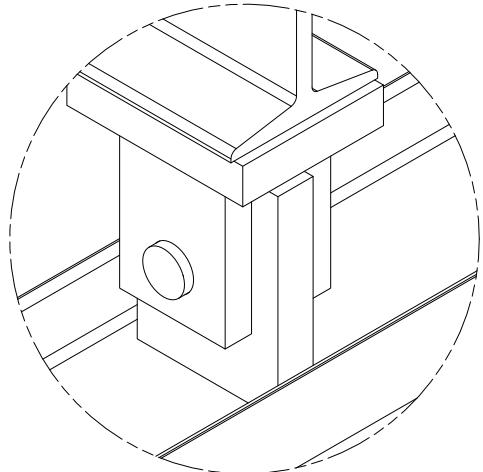

Figure 10
5. Insert the pins provided into the truck leveler hinge tabs where they will rest on the trunnion hinge weldment as shown in Figure 10.